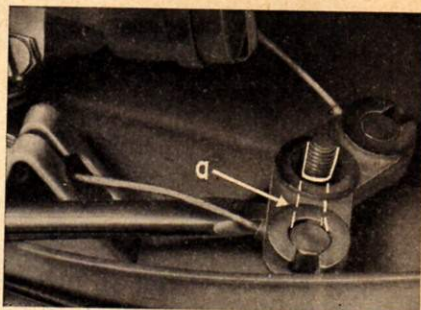

Fig. 15 Pressing gear shift lever out VI / 56 / 1759
2. Undo cover plate from chamber housing carburetter and remove. Unscrew the 6 metre hexagonal nut (width across flats 10; it will be subsequently designated with SW) from the gear fork shaft. Lift off gear shift lever and spring washer or press out with a screw driver. (see fig. 15)
From engine No. 01 020 008 the gear shift lever (see arrow on fig. 15) is cribbed with "top". In addition the bottom eyes for the cable nipples are closed. From engine No. 01 025 053 the slot in the gear shift lever is reduced in width from $7 + 0.022$ mm and eliminates play in the fitting. This gear shift lever can be exchanged with the previous design and carries the part No. 0101-15226-01.
25. Reassemble gear shift lever (marked "top" from engine No. 01 020 008) and tighten thoroughly. The direction of the drive must be transverse to the lug retaining the gear fork shaft (see fig. 15).